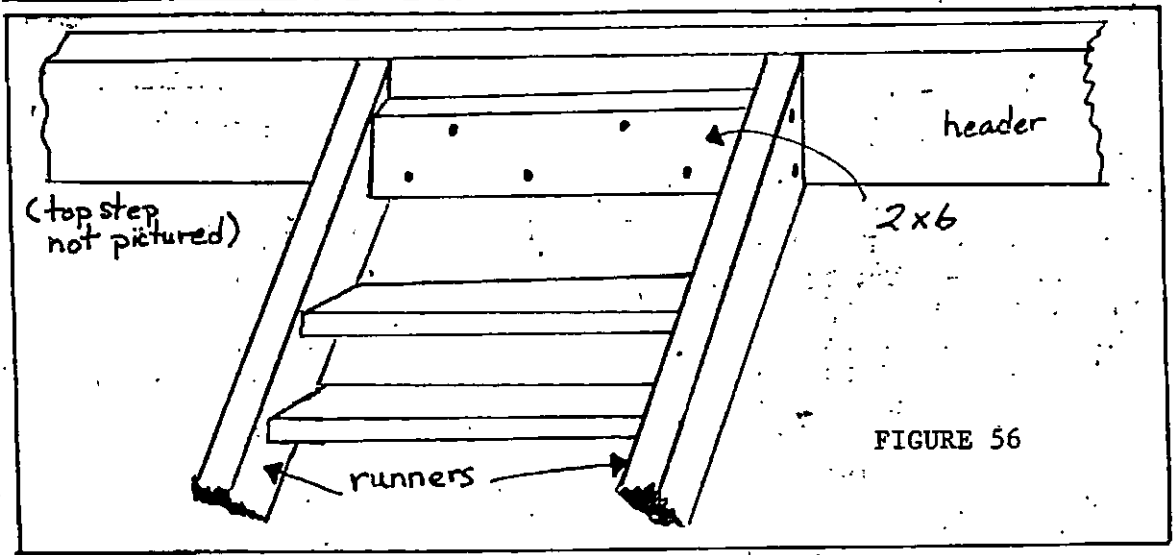

FIGURE 56
9. Make sure runners are connected firmly to the house or porch. If you're not confident that they are connected firmly, take a 2 x 6 and cut to the length that the treads will be. Nail the 2 x 6 into the house or porch header--level--and then nail two or three nails from runners into sides of the 2 x 6 (See Fig.56)